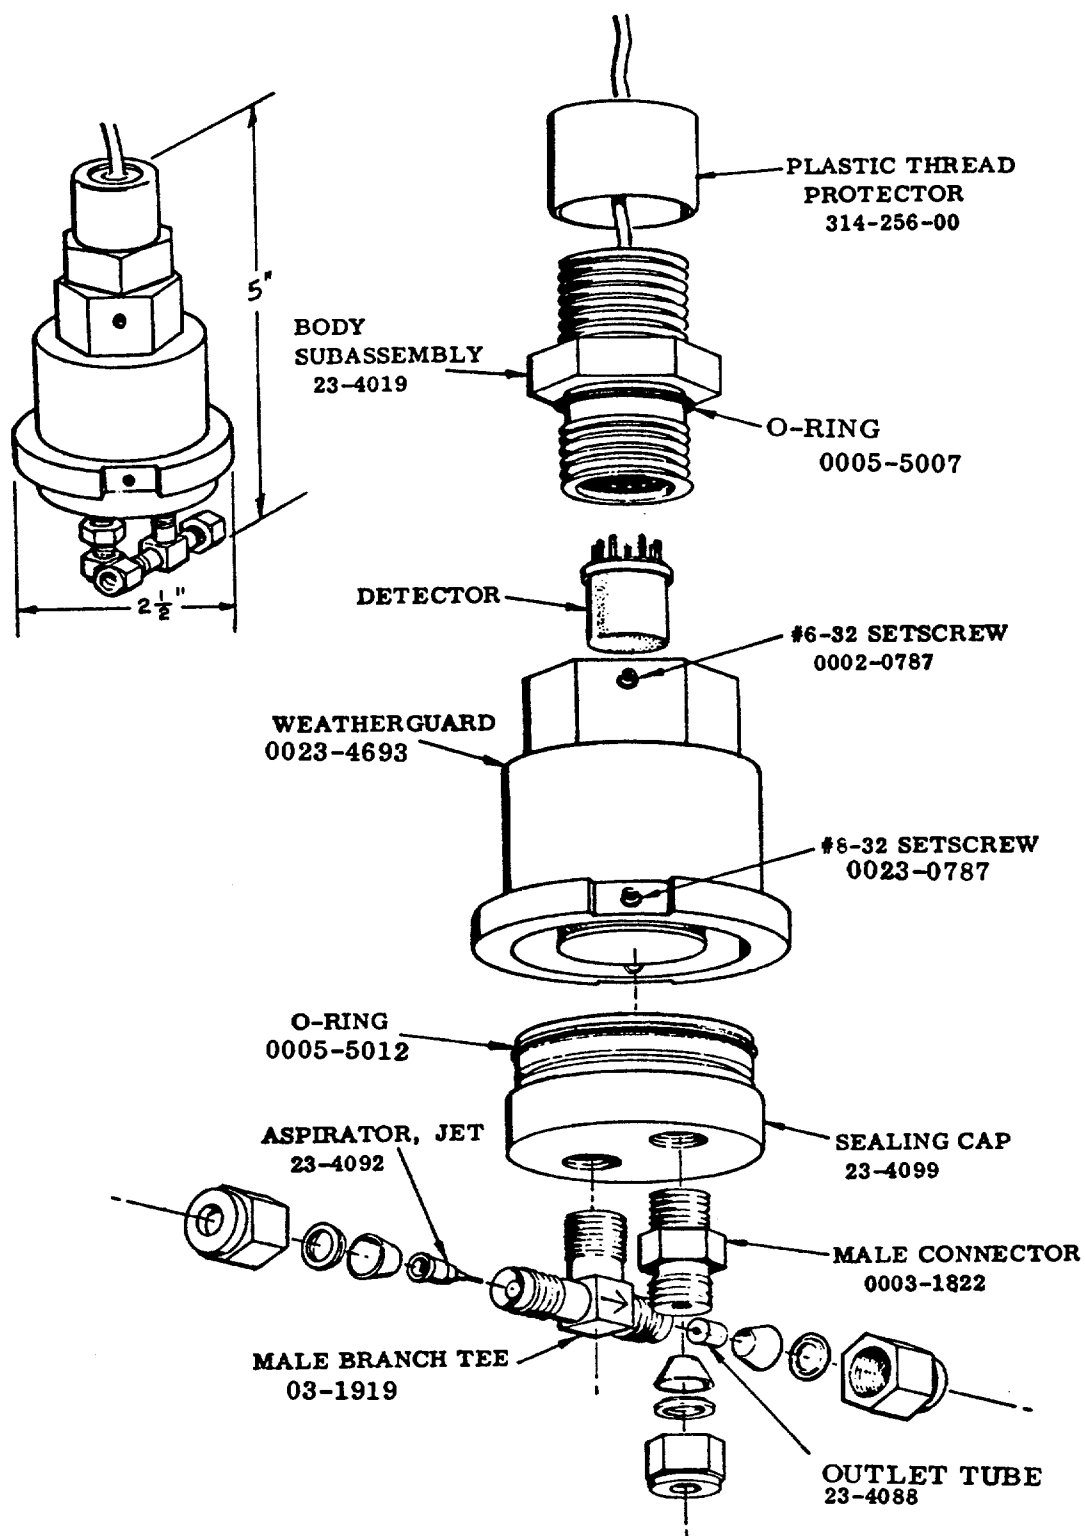
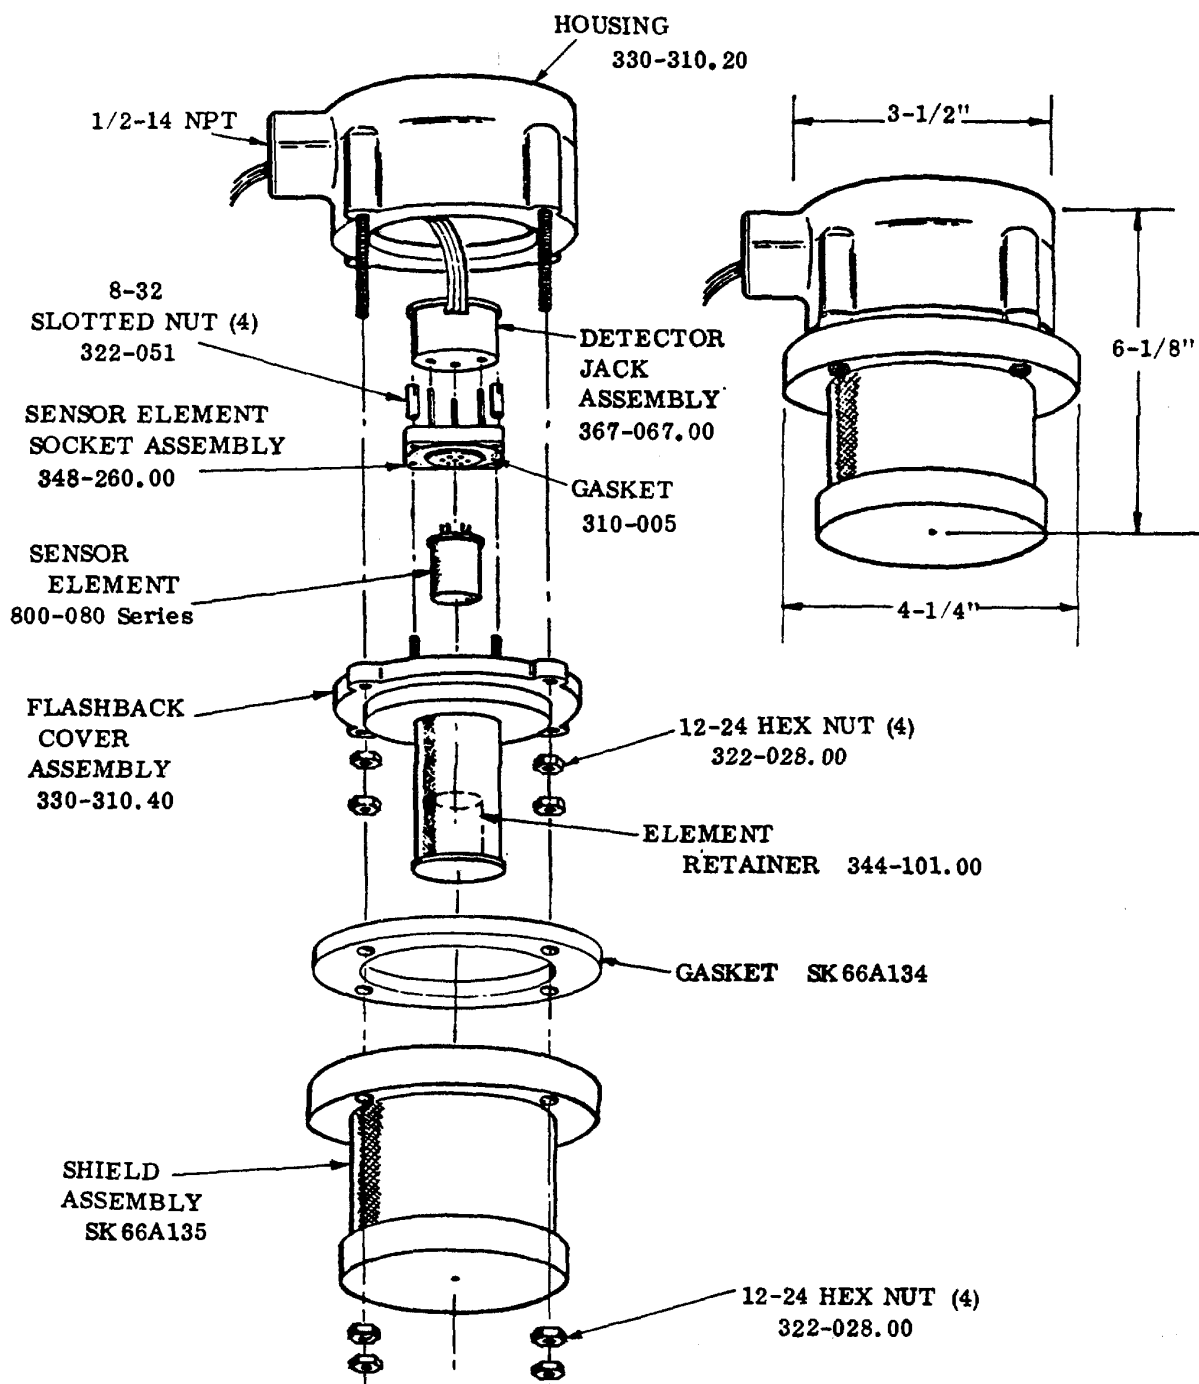

Figure 2-22. Detector Model 0023-4017 Exploded View
Figure 2-23. Detector Model 0023-7317 Exploded View
- d) To expose sensor element of Detector #0023-4017 (Figure 2-22):
(1) Break tubing connections at union fittings
(2) Loosen setscrew used to secure aluminum weatherguard housing from body to expose sensor element.
- e) To expose element of Detector #0023-7317 (Figure 2-23):